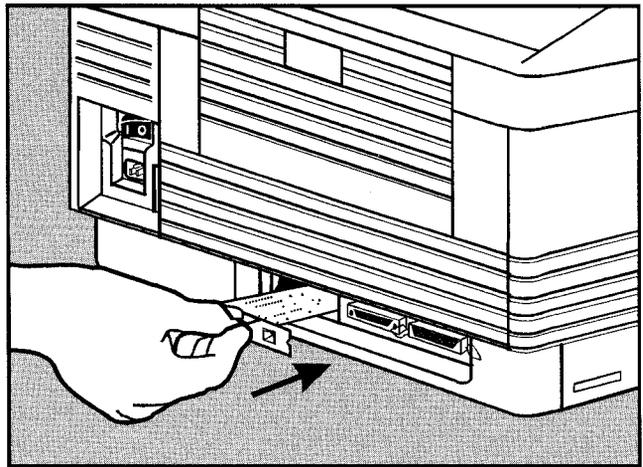

Figure 3-13. Inserting the 10BASE-T Adapter Card
5. Hold the adapter card by its handle with the circuit board components facing down and push the adapter card firmly into the Optional I/O slot. See Figure 3-13.